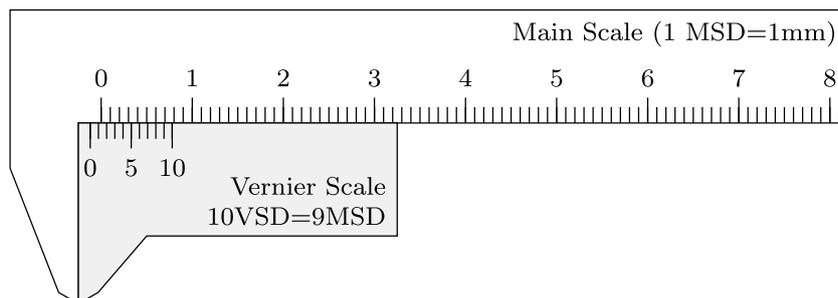

Figure 9: Problem 2.
**Problem 2.** The jaws of the Vernier calipers shown in Figure 9 are in contact with each other. Find the zero error of this Vernier calipers. (Ans: -0.12 cm)